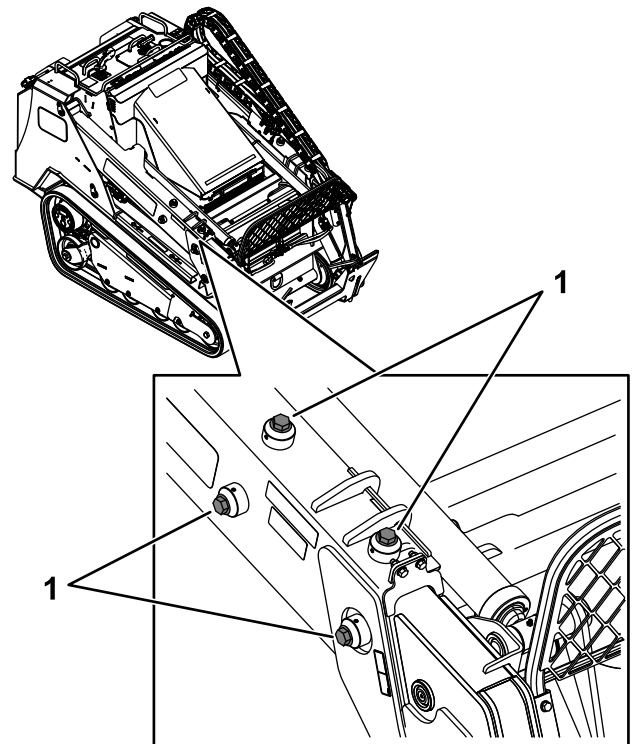

Figure 86
3. On each loader arm, loosen the setscrew on the 4 adjustment screws (Figure 86).